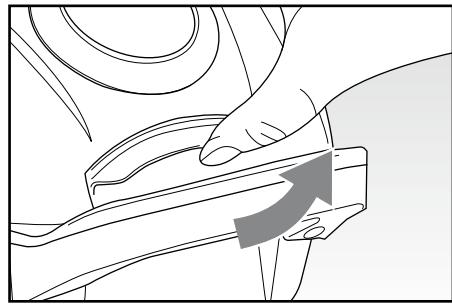

Fig. 7
- Open the dust bag compartment using the apposite lever (Fig. 7).